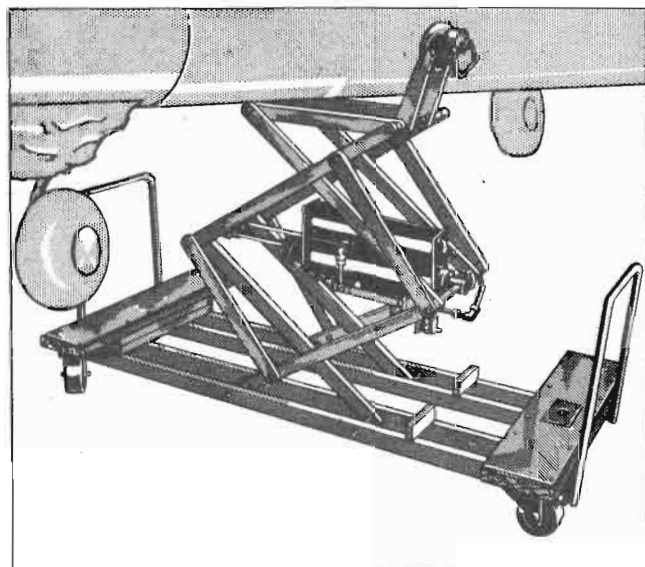

Figure 31 — Tail Jacking Conveyor
(5) A jacking conveyor, similar to that shown in figure 31, may be employed to jack and transport the airplane when "swinging" the compass. The conveyor is attached at the lift-mooring tube. Its use allows easier balance and mobility.